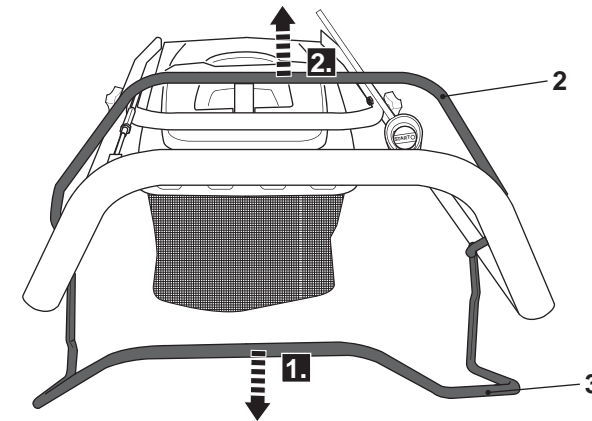

Fig. 18
- Release the drive bar (3) to stop the self-propelled function (Fig. 18, step 1).
- Release the brake bar (2) to stop the engine and blade (Fig. 18, step 2).